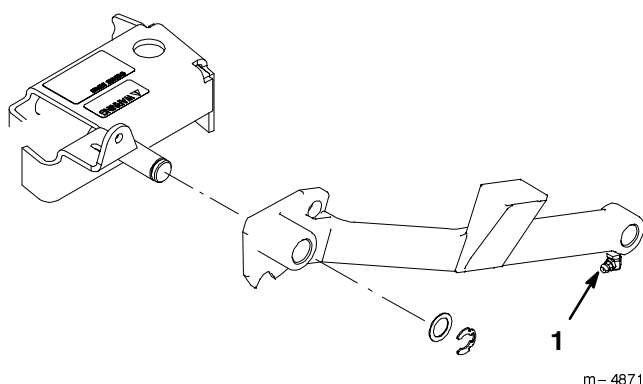

Figure 68
3. Grease the fittings on push arms (Fig. 68).